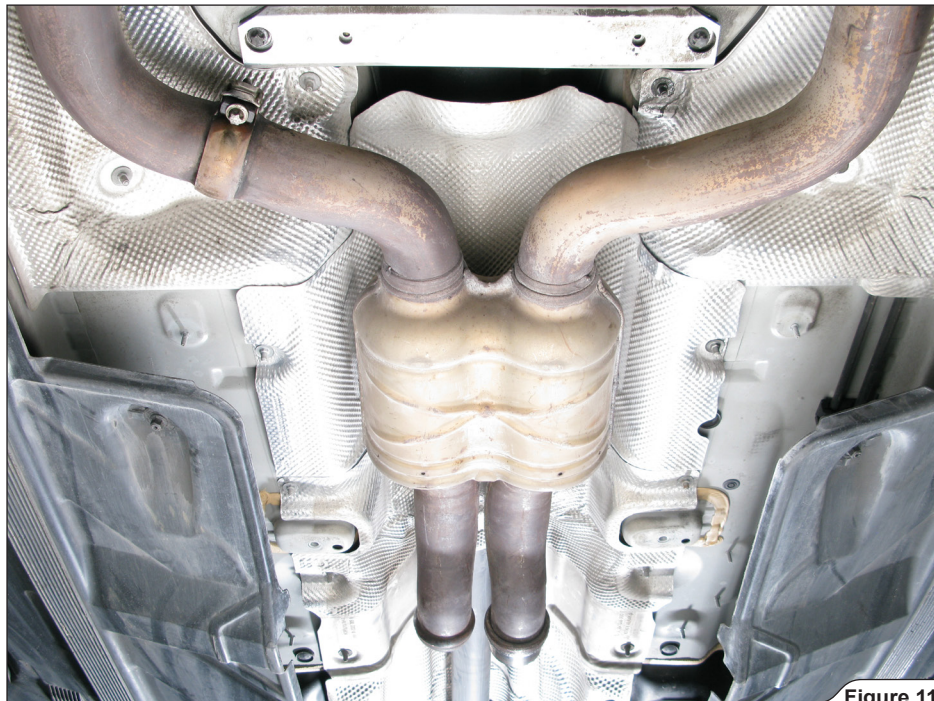

Figure 11
10. **For Evolution only:** unscrew the marked spherical clamp and remove the front pipes off the vehicle (Figure 11).